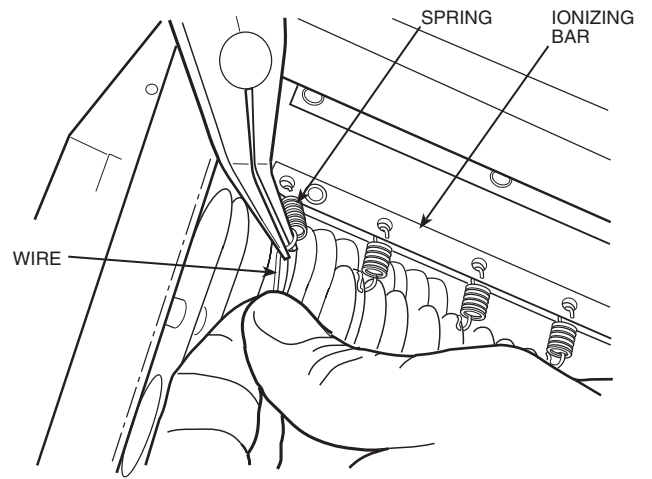

Fig. 9 — Replacing an Ionizing Wire
6. Using the needle nose pliers, grab the end of the spring and stretch towards loop in wire. Place eyelet in wire over spring hook and release spring. See Fig. 9.